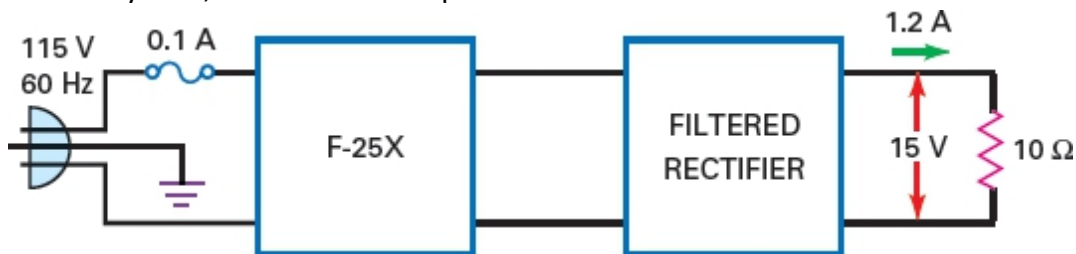

Figure-66 Calculating fuse current
- For instance, Figure-66 shows a fused transformer driving a filtered rectifier. Is the 0.1-A fuse adequate?
- Assume that a capacitor-input filter is used in Figure-66. If an ordinary 0.25-A fuse is used in Figure-66, it will blow out when you turn the power on. The reason is the surge current, described earlier.